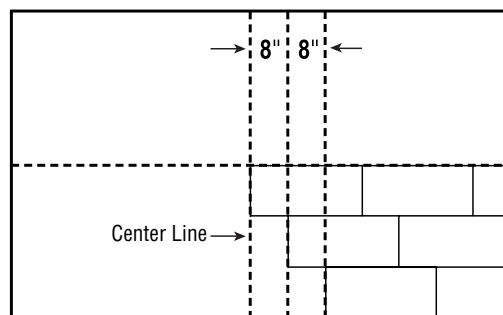

Figure 9 - 1/3 Drop Layout.
- Snap two additional chalklines, one 8" and the other 16" away from the center perpendicular line (Fig. 9). Complete a dry layout in the first 3 rows starting from the center perpendicular chalkline. If the border tile in any of the 3 rows is less than 4", adjust all three perpendicular lines 4" in either direction.